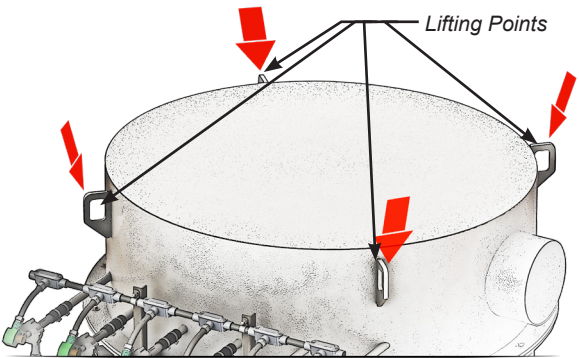

FIGURE 3
1. Move the Kice Venturi-Jet filter to the installation area using proper equipment. Lift only by lugs indicated (see Figure 3).